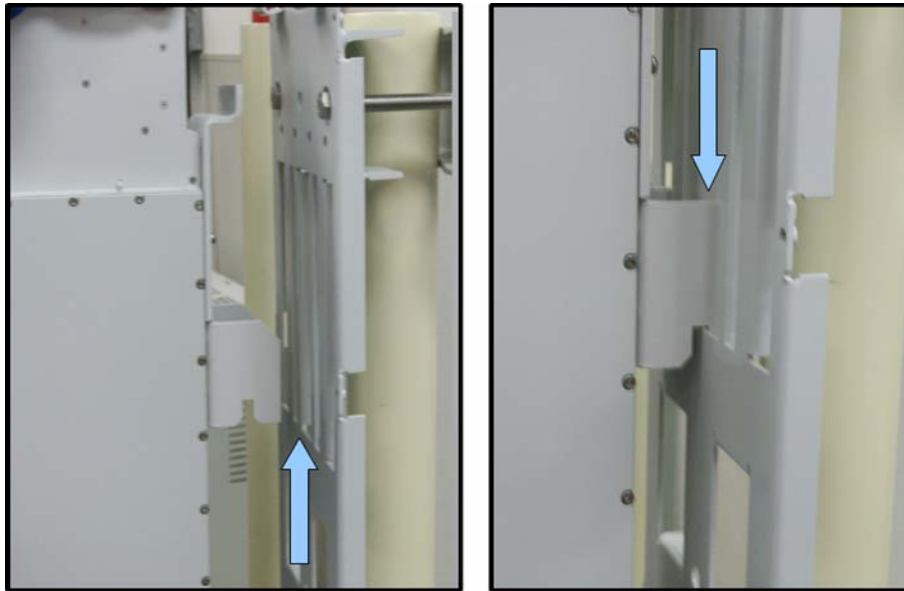

Figure 4-4. Secure Enclosure To the Side Mounting Bracket
2. Grasp the Remote Unit at the top and bottom of the casing and carefully slide the top two hooks onto the mounting panel, **Figure 4-4**, followed by the lower hooks and allow the Unit to slide down into place.